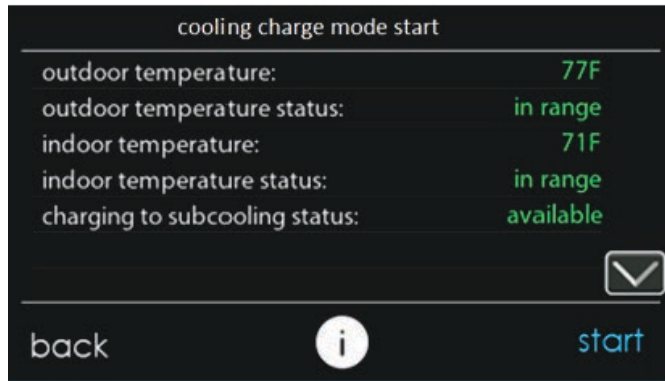
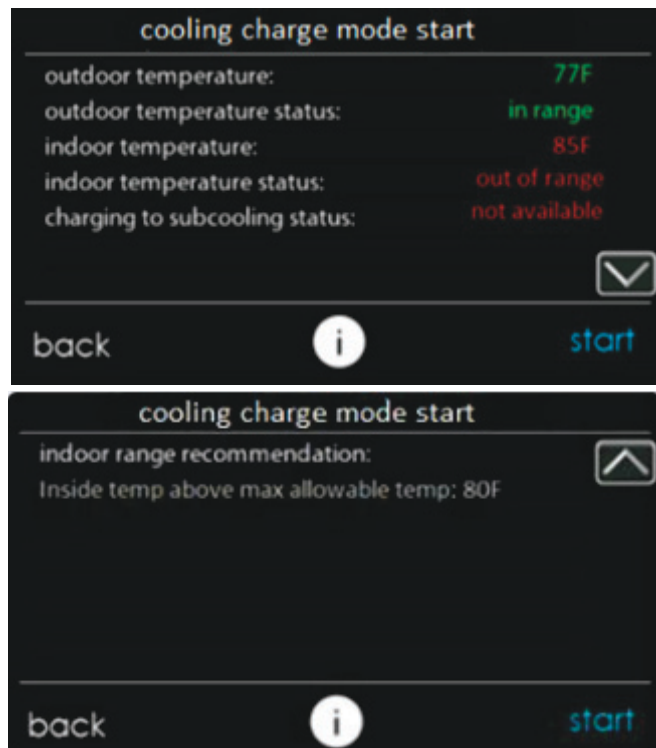

Fig. 17 – Cooling Charge Mode Start Screen - Subcooling Available A240373
Fig. 18 – Cooling Charge Mode Start Screen - Subcooling Unavailable A240385
8. The next screen, “cooling charge mode start” is shown in Fig. 17 or Fig. 18 depending on whether subcooling charging is available. The reason for unavailability of subcooling can be viewed by pressing the down arrow to go to the second page. Before selecting “Start”, verify that the service valves are open. Pressing start will turn on the system at a fixed set of operating parameters in COOLING mode.